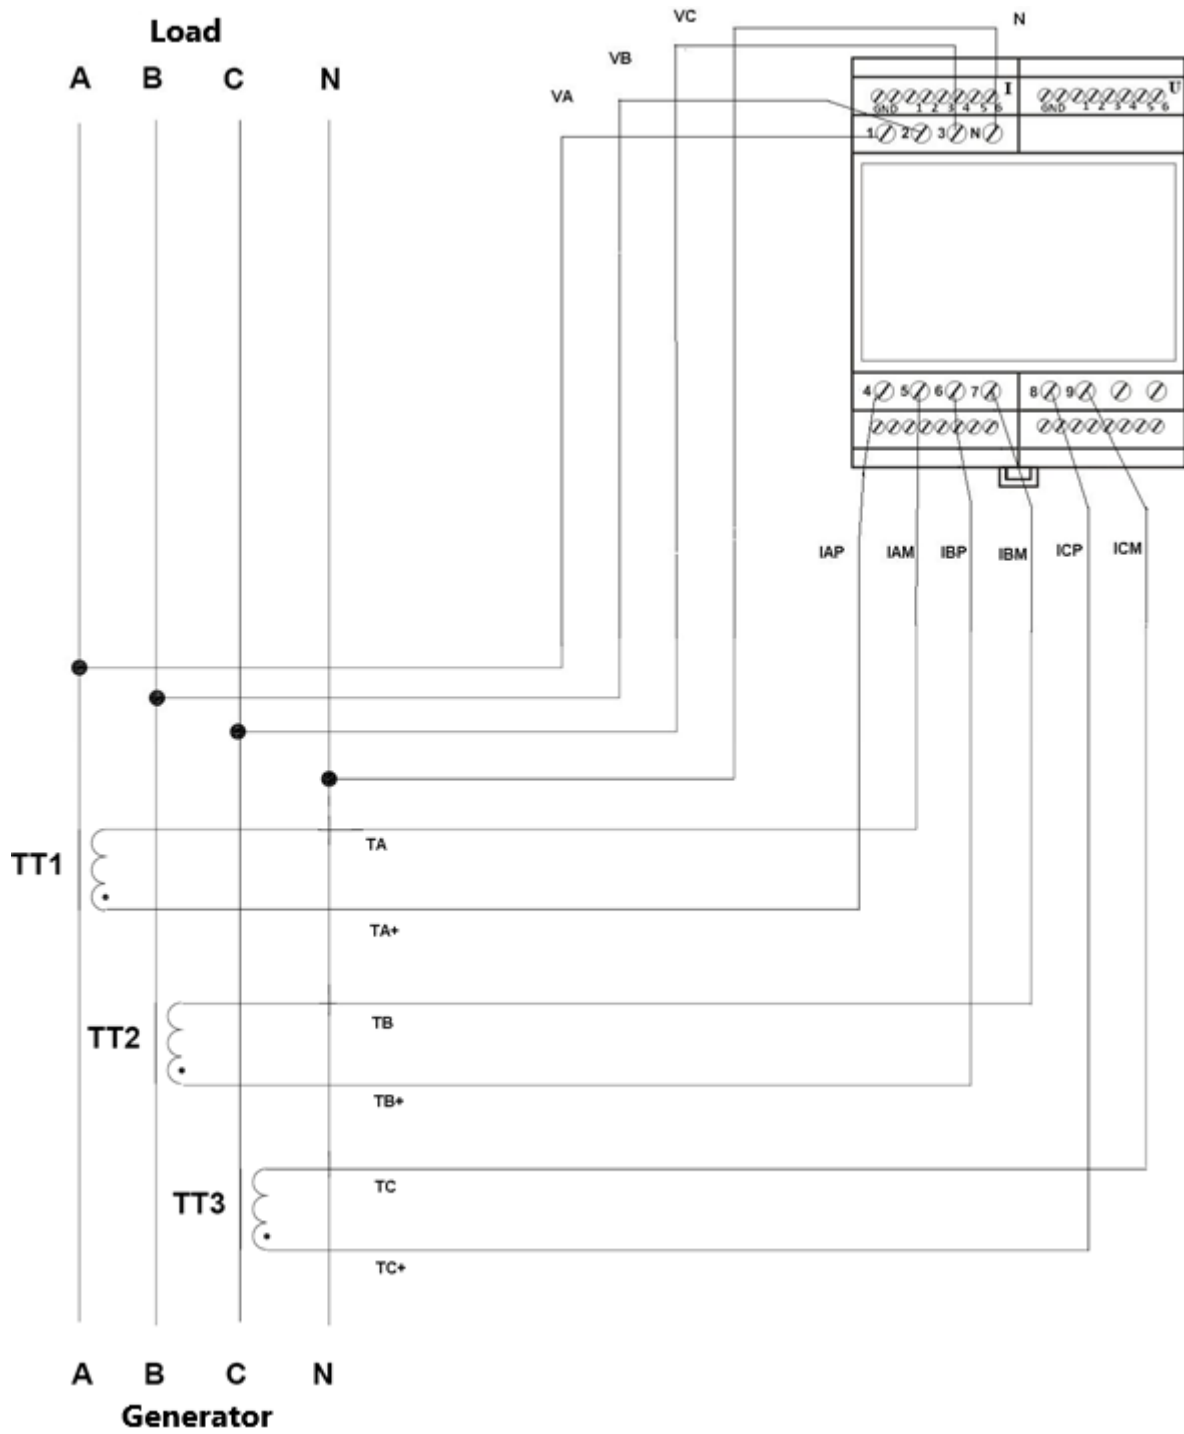

Figure A2. Four-wire connection diagram of the measuring device using three current transformers.
5.2.5 Assemble the circuit according to Figure A2 of Appendix A for a 4-wire connection circuit if the parameters are being checked, or according to points 5.3.2 -5.3.5 if the standard switching is performed during normal operation.
5.3.4 Make all necessary external connections to the corresponding contacts of the meter according to the connection diagram (Figure A2 Appendix A). When connecting, take into account the recommendations of paragraph 5.2.5.